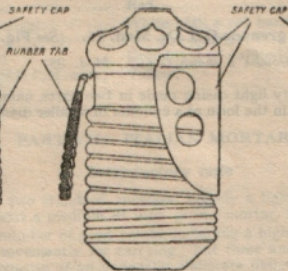

FIG. 16.—BREDA MOD. 35
26. Hand grenade Breda, Mod. 35. (See Fig. 16)